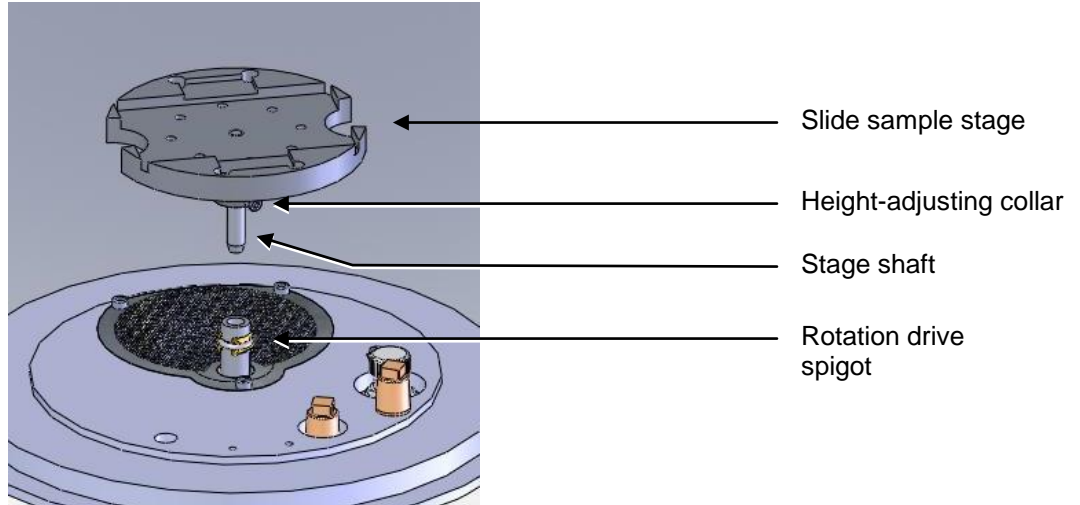

Figure 7-12. Slide stage
- b. With a twisting motion, push gently down until the collar around the shaft rests on top of the drive spigot (see **Figure 7-12**).